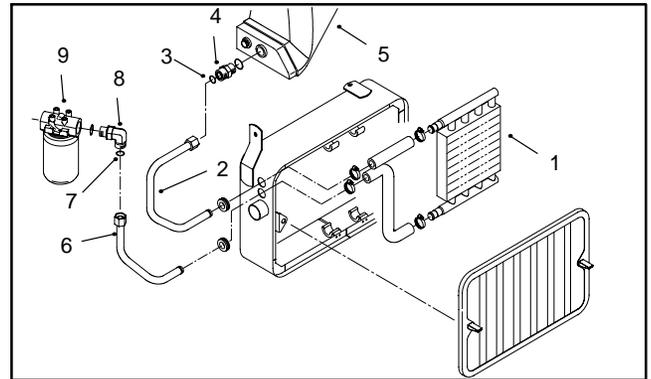

Figure 21
- A. Open drain petcock (32) on the back of the radiator. Drain radiator completely into a suitable container and close petcock.
- B. Disconnect expansion tank hose (25) and radiator hose (17) at the thermostat housing (27). Disconnect radiator hose (2) at the water pump.
7. Disconnect hydraulic oil cooler if installed (Fig. 21).